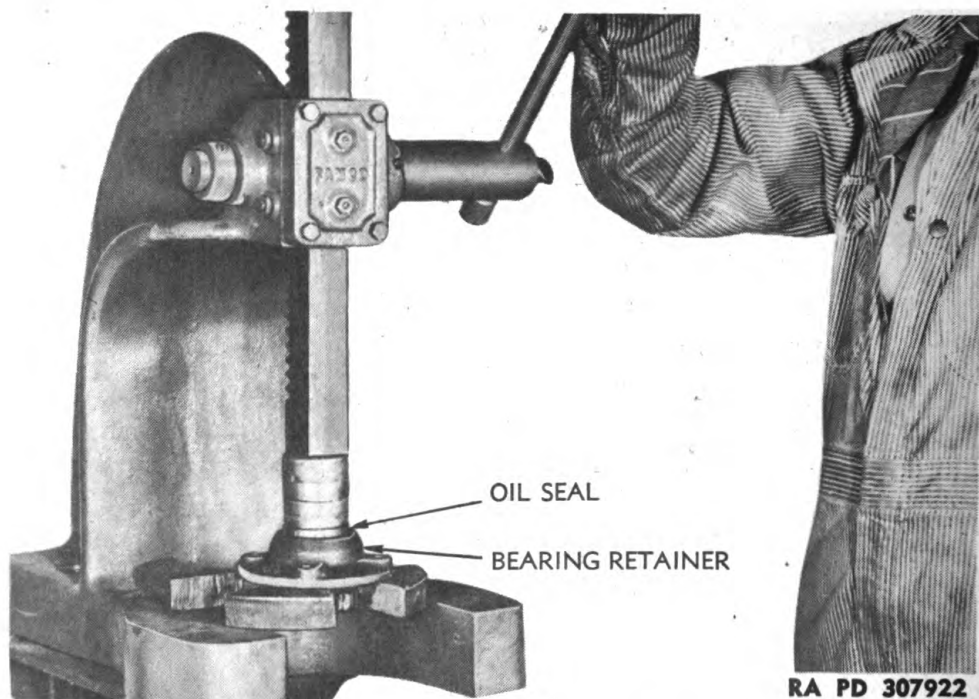

Figure 115 — Pressing Oil Seal Into Bearing Retainer
(3) **REMOVE BEARINGS FROM SHAFT AND OIL SEALS FROM RETAINERS.** Press shaft from bearings with arbor press or bearing puller. Press oil seals from bearing retainers with arbor press as shown in figure 115.
(2) **INSTALL BEARING RETAINERS AND SHIMS.** Press new oil seals into bearing retainers if old ones were removed with arbor press (fig. 115). Lips of seals should face inner side of retainers. Cement gasket to one of the retainers and install a retainer on one end of housing with four cap screws with lock washers. Use care to prevent folding of oil seal when retainer is installed. Install second retainer on opposite end of housing, using shims totaling approximately 0.050 inch in thickness between retainer and housing. After tightening retainer cap screws, test for end movement of shaft and bearings. Adjust for free rolling of shaft and bearings with no end play by adding or removing shims.